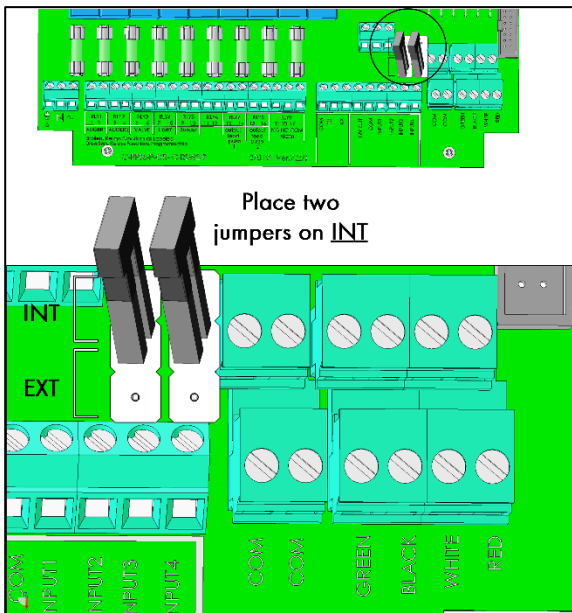
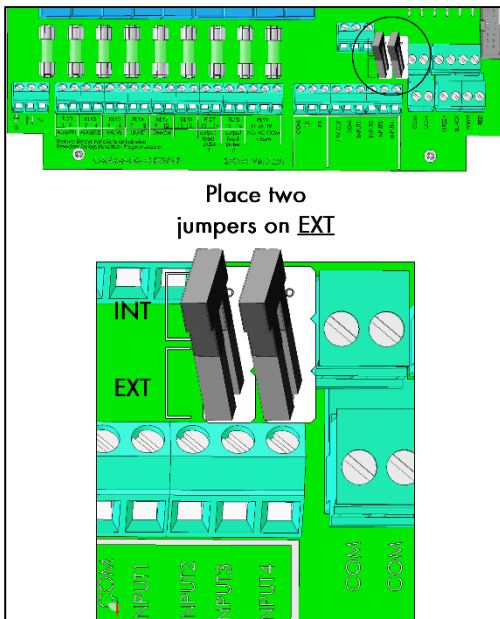

Figure 11: RSW-2 Jumpers set to Internal Power Supply
Figure 13: RSW-2 Jumpers set to External Power Supply)
- In both cases, jumpers must be set correctly (Figure 11 and Figure 13).